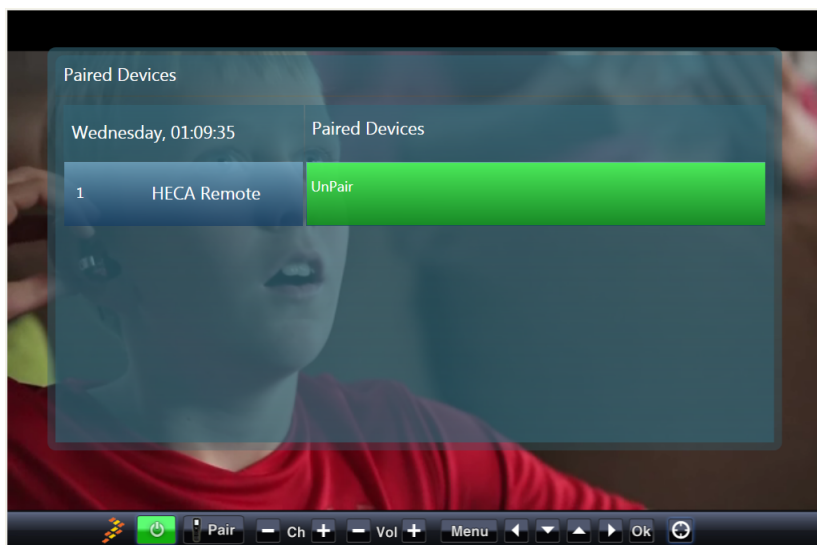

Figure 19. Cancelling A Pairing the Remote from the TV GUI
- Select UnPair for the remote to be unpaired as shown in Figure 19.